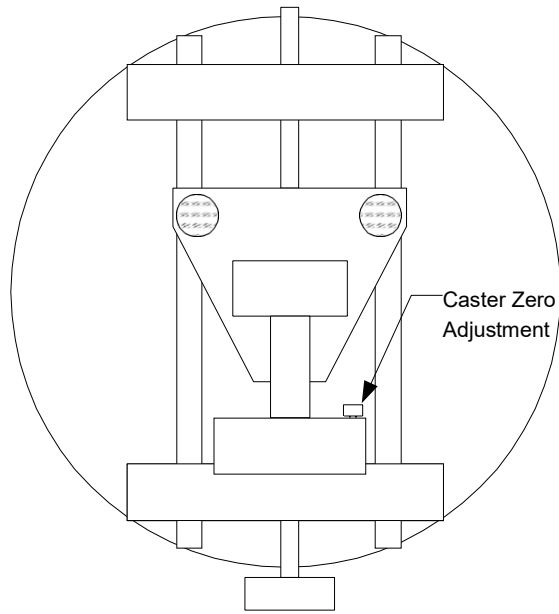

Figure 14
- 4) Rotate the wheel clamp $\frac{1}{2}$ turn; the clamping knob should be at a 6:00 o'clock position (Fig 14).